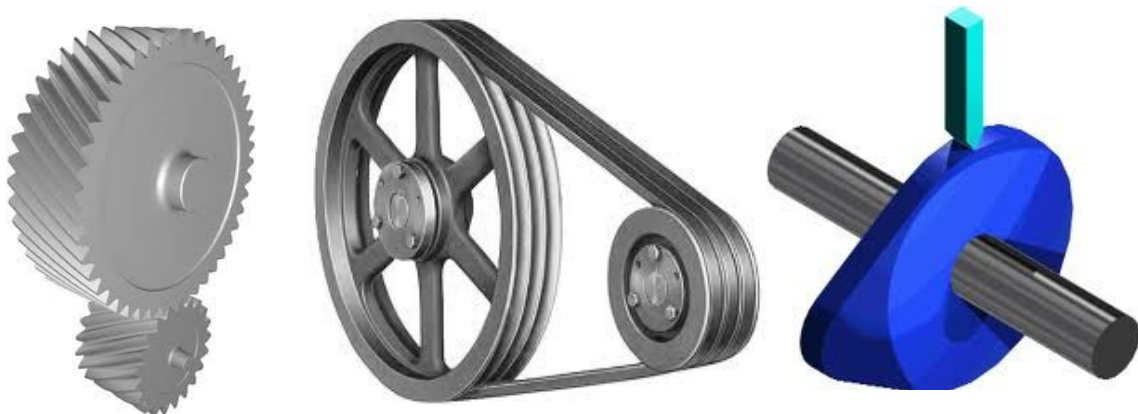

Fig. 1.12
2. **Unclosed/open Pair** : When two links of a pair are not held together mechanically but held in contact by the action of external forces are called unclosed pair. E.g. cam & follower as shown in fig. 1.12.